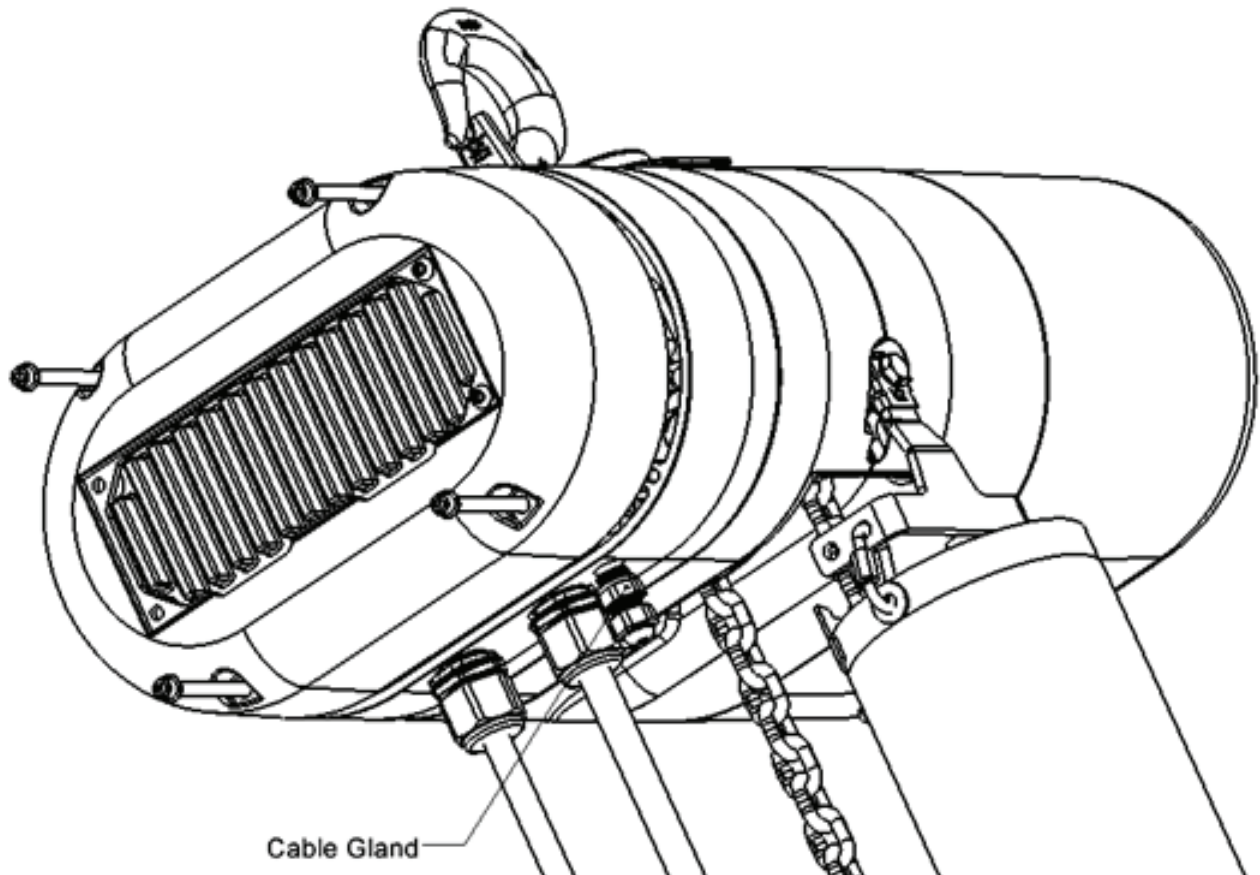

Figure 13: Cable Gland Installation
4. Install the free end RJ45 of the ethernet cable and gland into the now open M16 threaded hole in the hoist from the outside (shown in **Figure 13**). Tighten base of gland (not gland dome nut) finger-tight plus 1/4 to 1/3 turn. **Make sure the O-ring does not twist.** The angled RJ45 connector will be a tight fit through the threaded hole and will scar the RJ45 molding.